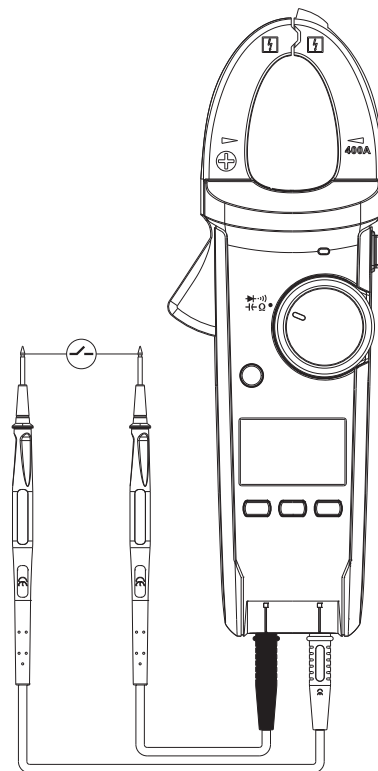

Figure 7
6. Measuring of Conductivity (See Figure 7)